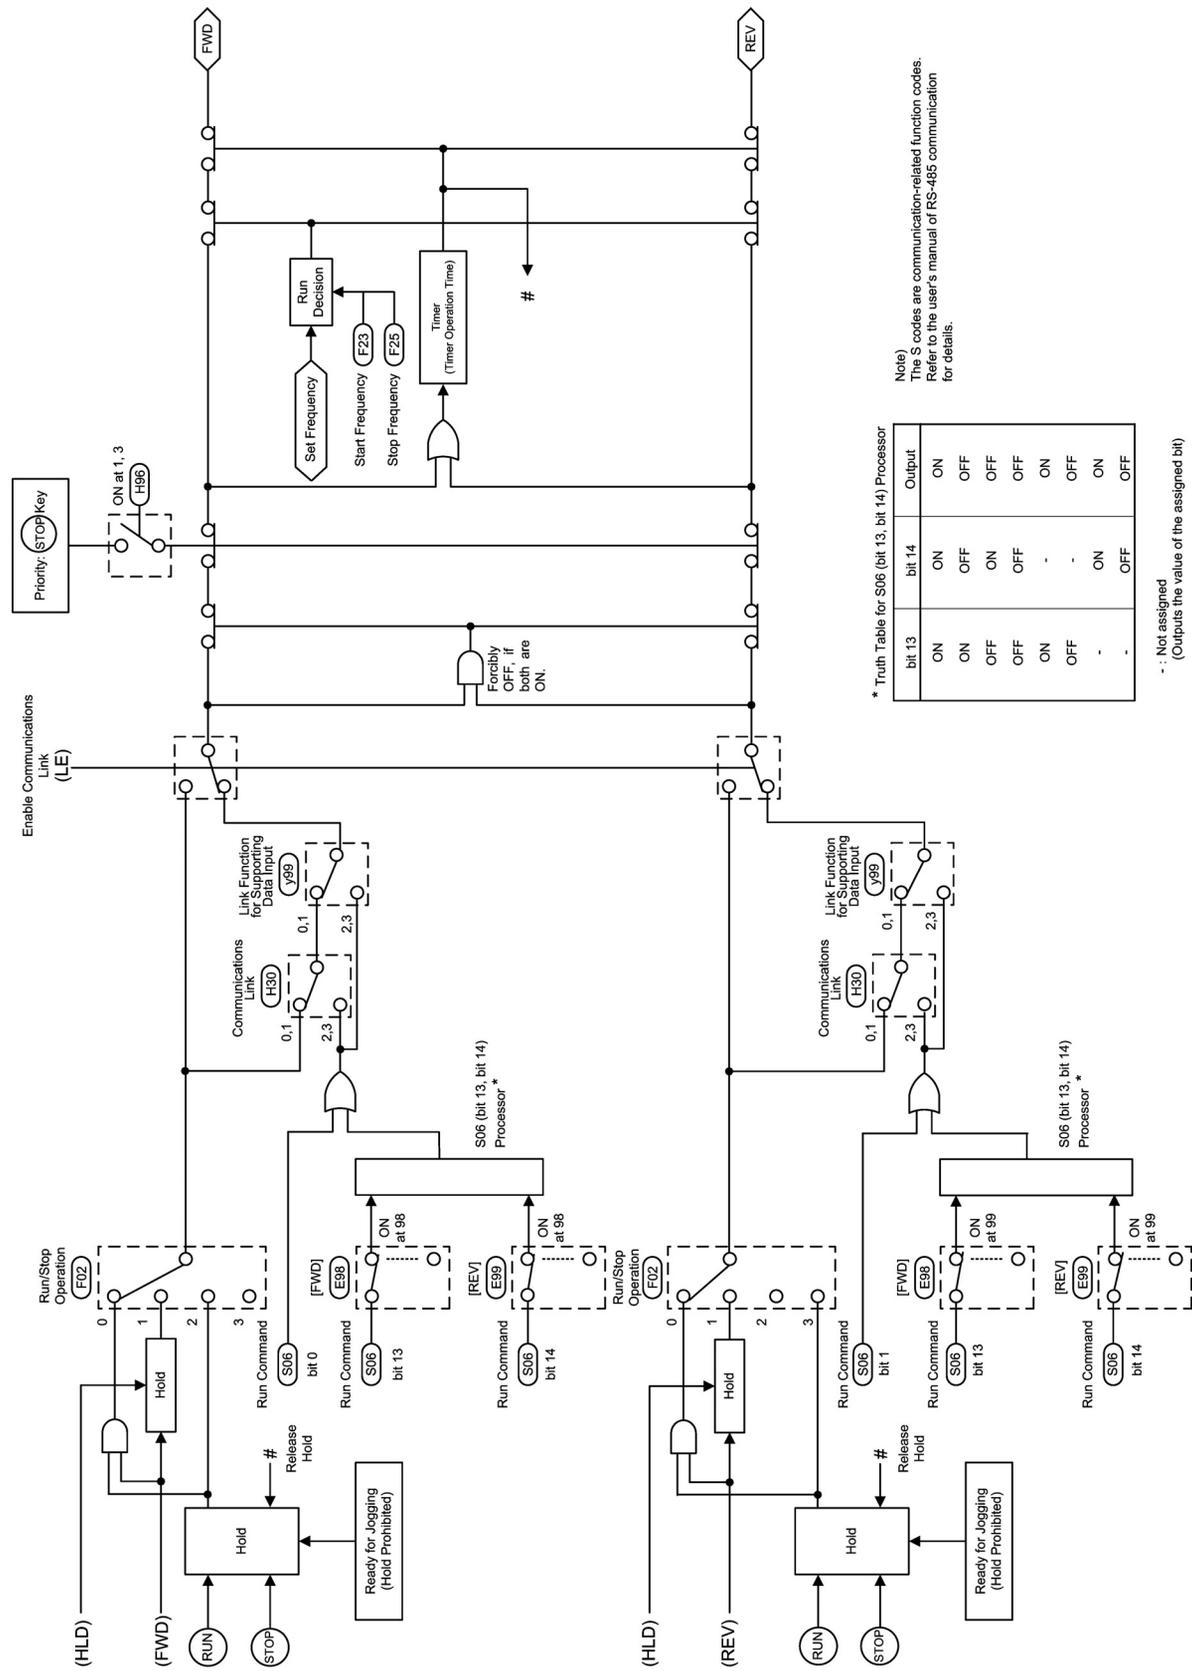

Figure 4.2 Drive Command Generator
The drive command generator shown in Figure 4.2 produces final drive commands (FWD: Drive the motor in the forward direction) and (REV: Drive the motor in reverse direction) from the run commands that are given by various means and modified/switched by function codes.
- In the block diagram, all of these are noted as operation commands. The data setting for function code E98 to specify the terminal signal property for [FWD] and E99 for [REV] determine which bit value should be selected as the run command. If bits 13 and 14 have the same setting to specify the property for (FWD) or (REV), the output of bit 13-14 processor logic will follow the truth table listed in Figure 4.2.
- If either one of bits 13 and 14 is ON (1 as logic value), the OR logic will make the link command (LE) turn ON.